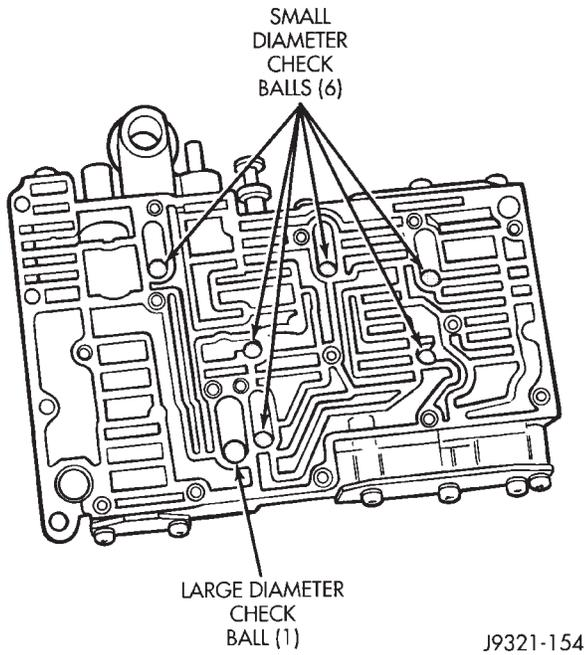

Fig. 98 Check Ball Locations In Upper Housing
- (1) Position upper housing so internal passages and check ball seats are facing upward. Then install check balls in housing (Fig. 98). Seven check balls are used. The single large check ball is approximately 8.7 mm (11/32 in.) diameter. The single small check ball is approximately 4.8 mm (3/16 in.) in diameter. The remaining 6 check balls are approximately 6.3 mm (1/4 in.) in diameter.